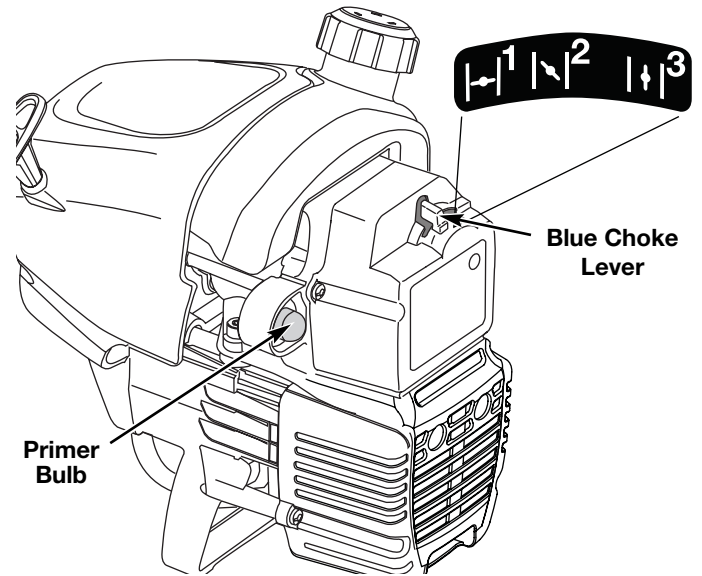

Fig. 7
2. Fully press and release the primer bulb 10 times, slowly. Some amount of fuel should be visible in the primer bulb and fuel lines (Fig. 7). If you can't see fuel in the bulb, press and release the bulb as many times as it takes before you can see fuel in it.
3. Place the blue choke lever in **Position 1** (Fig. 7).
5. Place the blue choke lever in **Position 2** (Fig. 7).
8. Once the engine is warmed up, place the blue choke lever in **Position 3** (Fig. 7). The unit is ready for use.
IF... the engine hesitates, return the blue choke lever to Position 2 (Fig. 7) and continue warm-up.